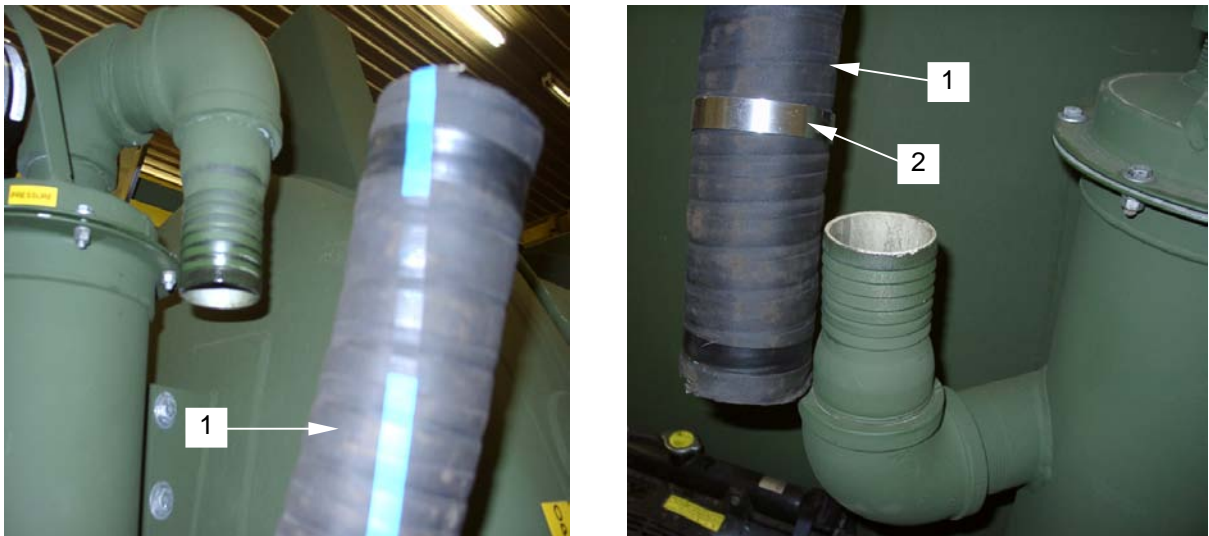

Figure 5. Installing Air Hoses
6. Reinstall air hoses (**figure 5, item 1**) and secure with retained hose clamps (**figure 5, item 2**).